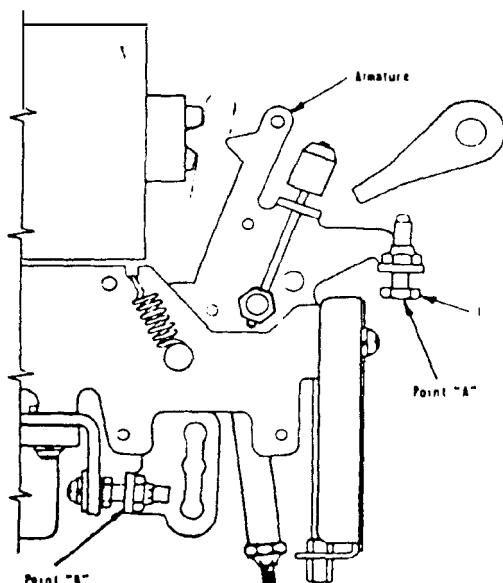

Fig. 18 — Armature Trip Travel Adjustment
1. (See Fig. 18). Back out on the two trip adjusting screws (1) until the screws are engaging the nut by approximately two turns.
3. Using a one-foot long (approximate) stick, push up on the long-time armature (thick armature) at point "A", and hold it tight against the magnet. (When pushing, allow time for the oil dashpot to displace the oil.) While holding the armature in this position by pushing at point "B", turn up on screw (1) until the circuit breaker just trips. Continue to turn the screw an additional one turn.